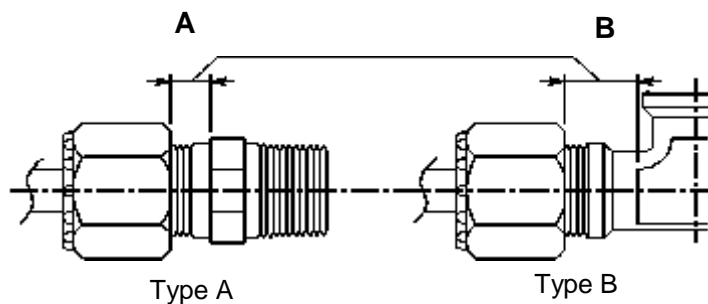

Figure 7. Gaps as criterion for tightness check
- 3) Type A: Applies to injection-molded fittings of straight type and machined PTFE fittings. (Figure 7)
- 4) Type B: Applies to injection-molded fittings of elbow and Tee type. (Figure 7)